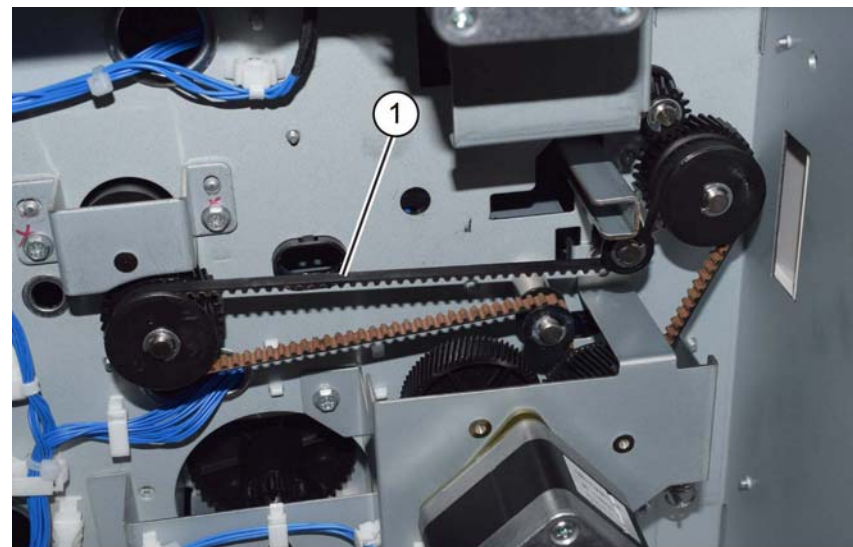

Figure 1 Belt installation
2. Ensure that the drive belt (1) is installed as shown in Figure 1.